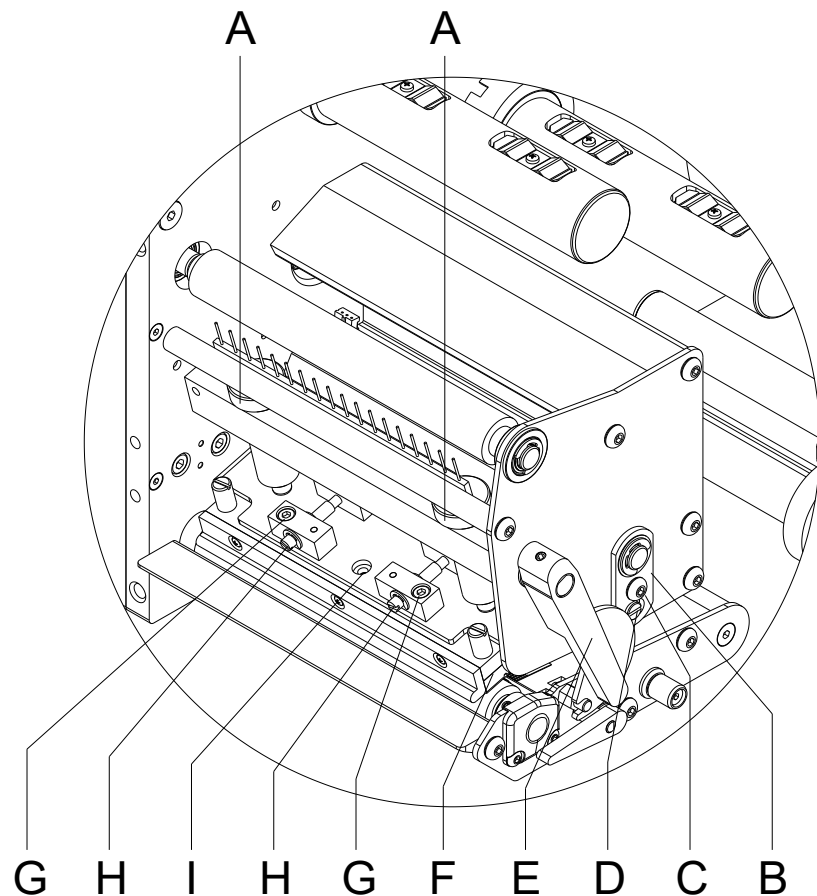

Figure 18
After adjusting parallelism and no even strong pressure exists over the complete print width, by means of a plate (B, Figure 18) you can set the balance.
1. Loosen the screw (C, Figure 18) with a screwdriver by approx. ¼ rotations.
2. In order to achieve a pressure balance, turn the eccentric bolt (D, Figure 18) as long as the printing result comes up to your full expectation.
3. Tighten again the screw (C, Figure 18).
Change the head contact pressure with the screws (A, Figure 18) at the inside and outside of the printhead. Increasing the head contact pressure leads to an improvement of the print image density on the corresponding side and to a shifting of the ribbon feed path in the corresponding direction.
1. Turn the pressure screws (A, Figure 18) to change the pressure of printhead.
2. Turning of pressure screws (A, Figure 18) as far as they will go in clockwise direction results in a pressure increase of 10N in contrast to the factory settings.
3. Turning of pressure screws (A, Figure 18) exactly one rotation from the right stop position counter clockwise results in the factory settings.